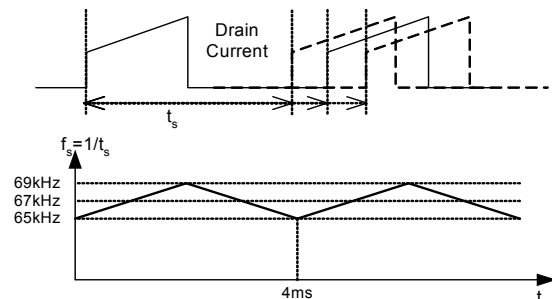

Figure 10. Frequency Modulation Waveform
7. Frequency Modulation : Modulating the switching frequency of a switched power supply can reduce EMI. Frequency modulation can reduce EMI by spreading the energy over a wider frequency range than the bandwidth measured by the EMI test equipment. The amount of EMI reduction is directly related to the depth of the reference frequency. As can be seen in Figure 10, the frequency changes from 65kHz to 69kHz in 4ms for the FSDM0365RN (48.5kHz to 51.5kHz for FSDL0365RN). Frequency modulation allows the use of a cost effective inductor instead of an AC input mode choke to satisfy the requirements of world wide EMI limits.